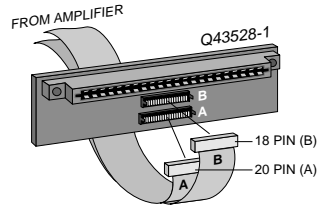

Fig. 3.18 *PIP2* Input Adapter Connection
2. Remove the existing *P.I.P.* module or panel (two screws). For *PIP2* amplifiers, this may involve disconnecting the *P.I.P.* from a *PIP2* input adaptor (see Figures 3.18 and 3.19). If a *PIP2* input adaptor is already present, do not remove the ribbon cables from the adaptor. Otherwise you will have to reconnect them in the next step.
PIP2 Amplifiers: (Requires a *PIP2* input adaptor. Crown part number Q43528-1.) Connect the *PIP2* input adaptor to the two input cables of the amplifier (see Figure 3.18). Notice that the *PIP2* input adaptor should be positioned with the *P.I.P.* edge connector on top and facing away from the amplifier. The 20 pin cable (A) is connected first then the 18 pin cable (B) is connected. Both ribbon cables should extend below the *PIP2* input adaptor.